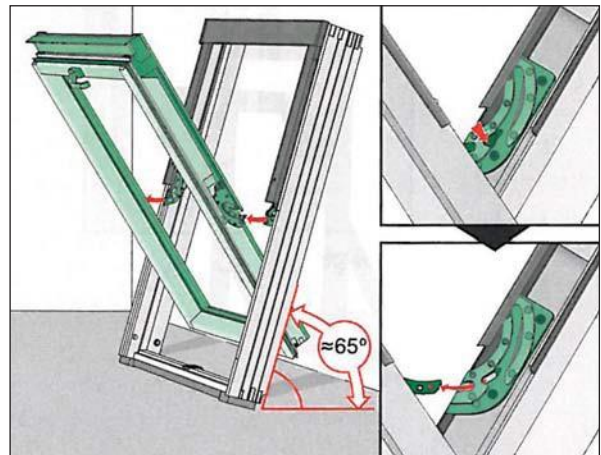

Fig 7
8) Take out the sash from the frame. To do this, rest the bottom edge of the roof window frame on the floor and tilt it slightly. Open the roof window and turn the sash to the angle of approximately 150°. One person should hold the frame and the sash in this position; the other must press in the push button in the hinge pins (Fig 7). Then remove the sash in the way indicated by the arrows. While taking out the sash make sure that the pins slide out from both hinges simultaneously. Failing to slide out both pins simultaneously may damage the hinges!